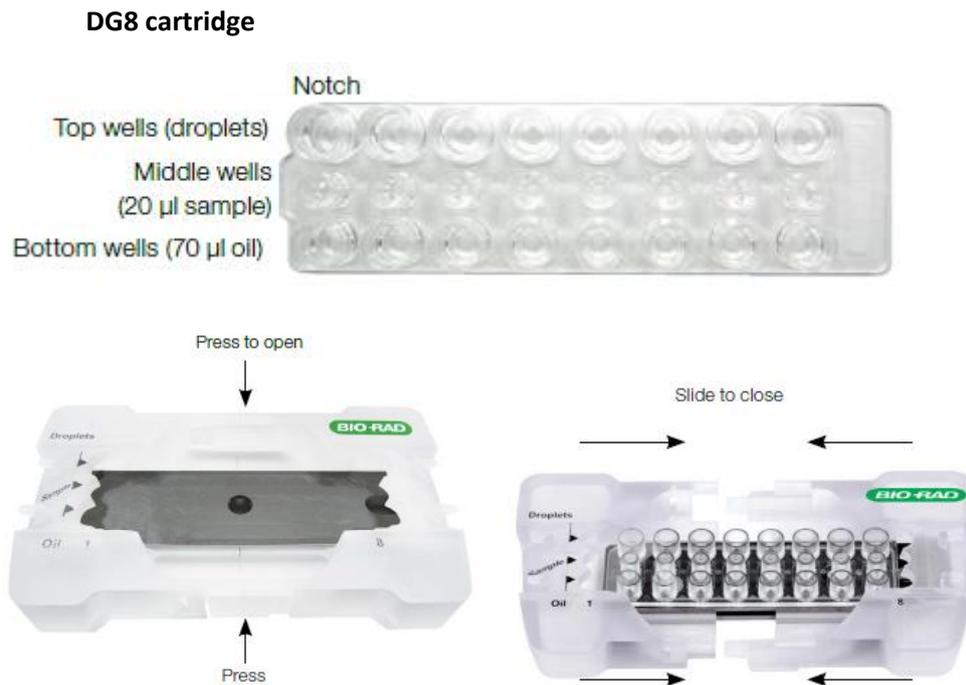

Figure 1. Inserting the DG8 cartridge into the cartridge holder.
2. Insert the DG8 droplet generator cartridge into the holder with the notch in the cartridge at the upper left of the holder (**Figure 1**).